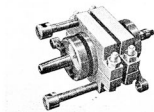

Fig. 4-16-7
- 3) Fig. 4-16-7 shows the complete installation of the tool in the crankshaft.
(Fig. 4-16-7)